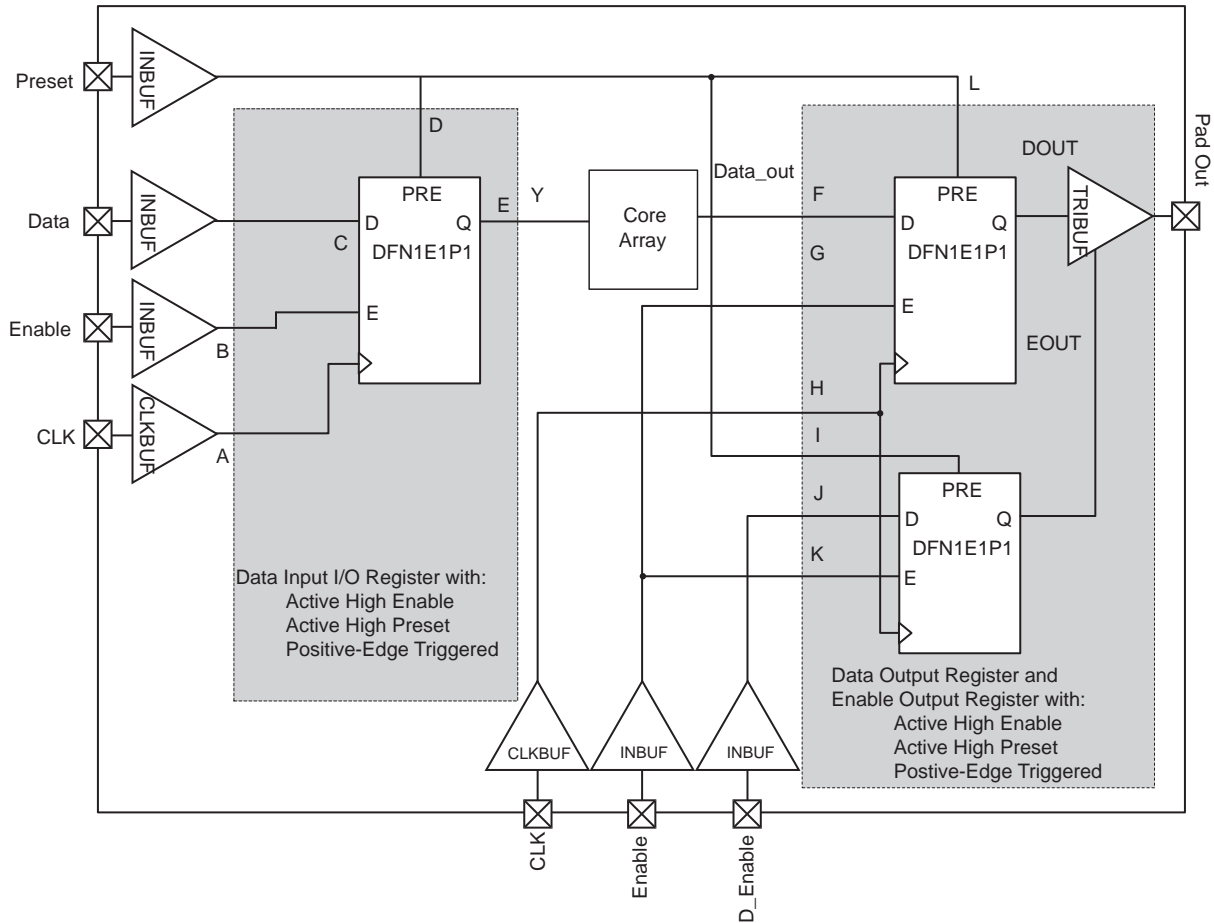

Figure 2-26 • Timing Model of Registered I/O Buffers with Synchronous Enable and Asynchronous Preset
* See Figure 2-26 on page 2-65 for more information.